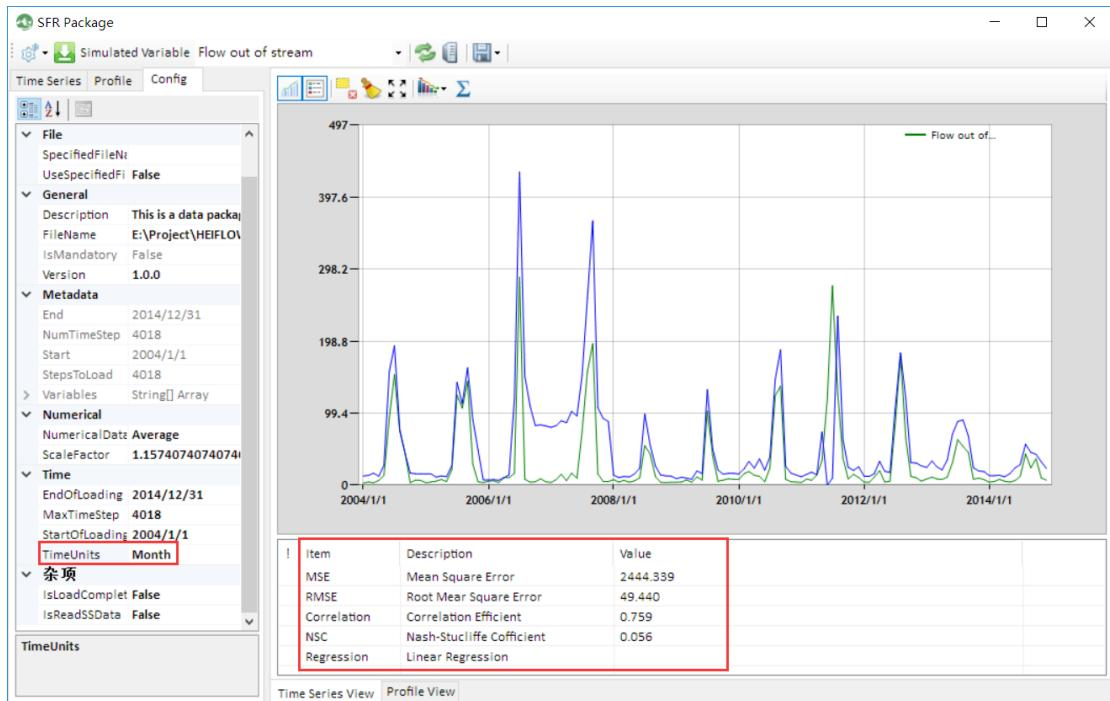

Figure 8-5. Statistics between simulated and observed time series.
- 8) Click Σ to calculate statistics between simulated and observed time series (Figure 8-5).